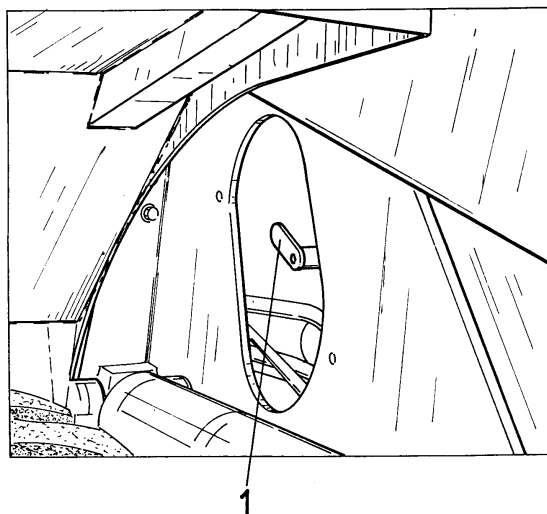

Fig. 5.36. Boom Safety Valve (on RH Side of Machine)
7. Open drain valve (10), allow the reservoir to drain.
- 8a. Lower the boom of a CE version with a boom safety valve (Fig. 5.36).
9. Close drain valve (10) after the reservoir has drained.
10. Remove the drain pipe and hose from the drain valve. Install plug (9) into the drain valve.
11. Replace reservoir filter (7) as described in section 5.14.3.
12. Fill the reservoir with clean oil until the ball in sight gauge (13) reaches the top of the gauge. Refer to Chart 2 and 3 for the grade of oil specified.
13. Install and tighten filler cap (4).